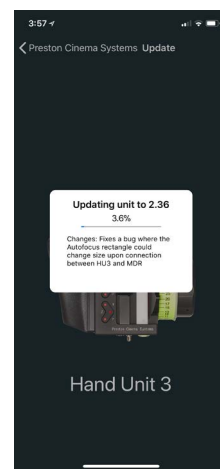

Fig. 3
- Choose yes. The progress bar (*above fig 3*) indicates the percentage of completion.